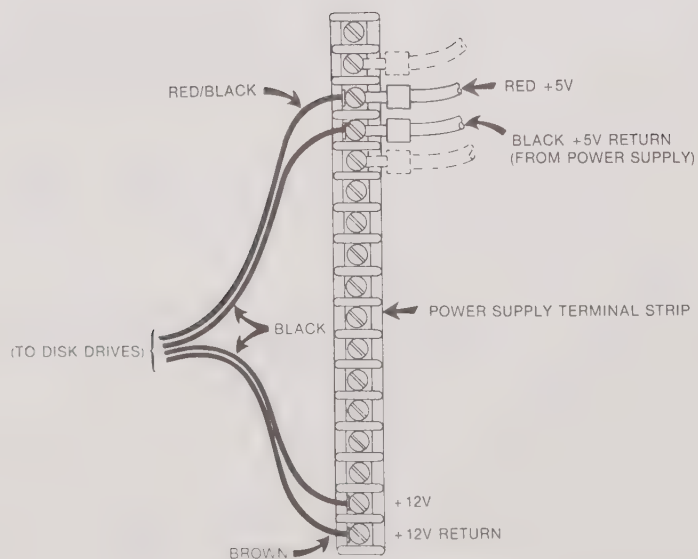

Figure 7-7. Disk Drive Power Harness Connections
4. Referring to Figure 7-7, connect the fully insulated power harness receptacles to the power supply terminal strip as illustrated. The user should note that the harness splits into two wire pairs; one pair consisting of a black wire and a red wire with a black stripe and the other pair consisting of a black wire and a brown wire. The black and red/black pair connect to power supply lugs nearest the rear of the unit.